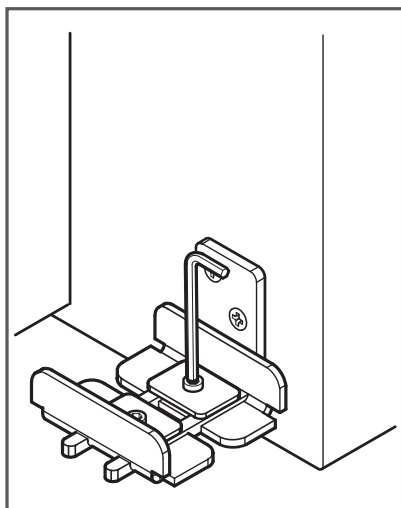

Figure 10
16. Tighten the U bracket set screws (Figure 10).